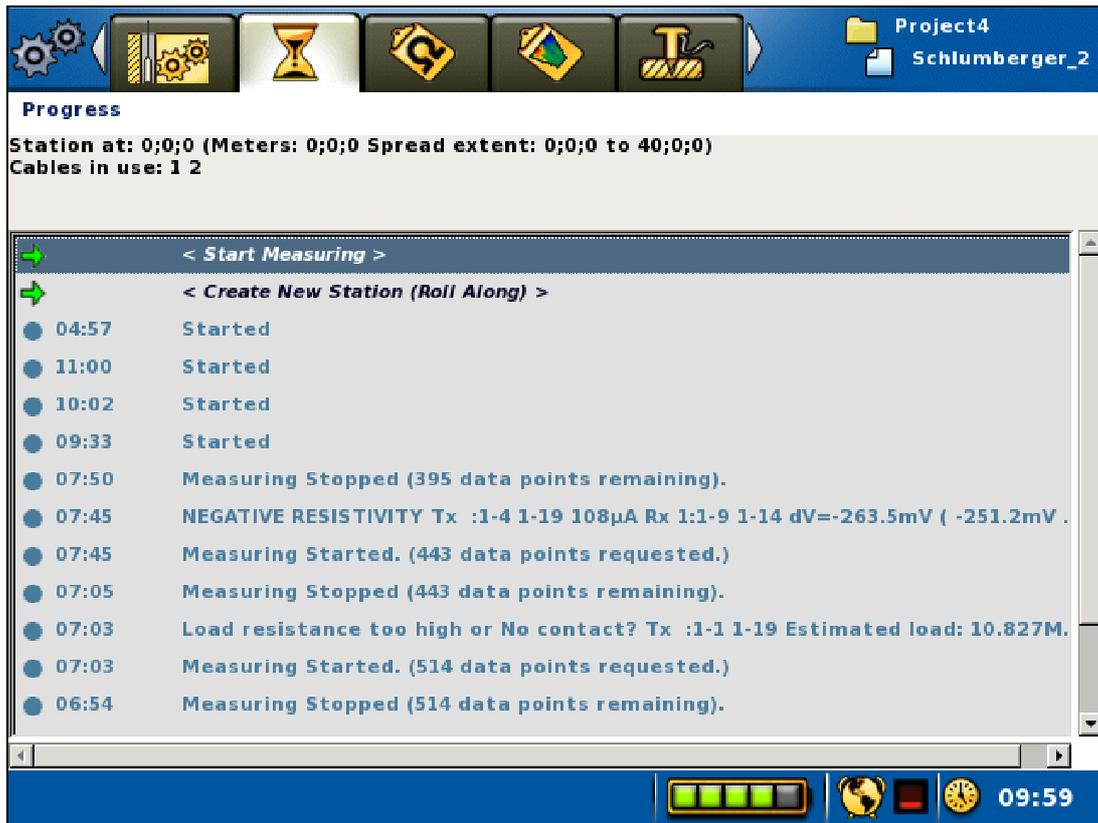
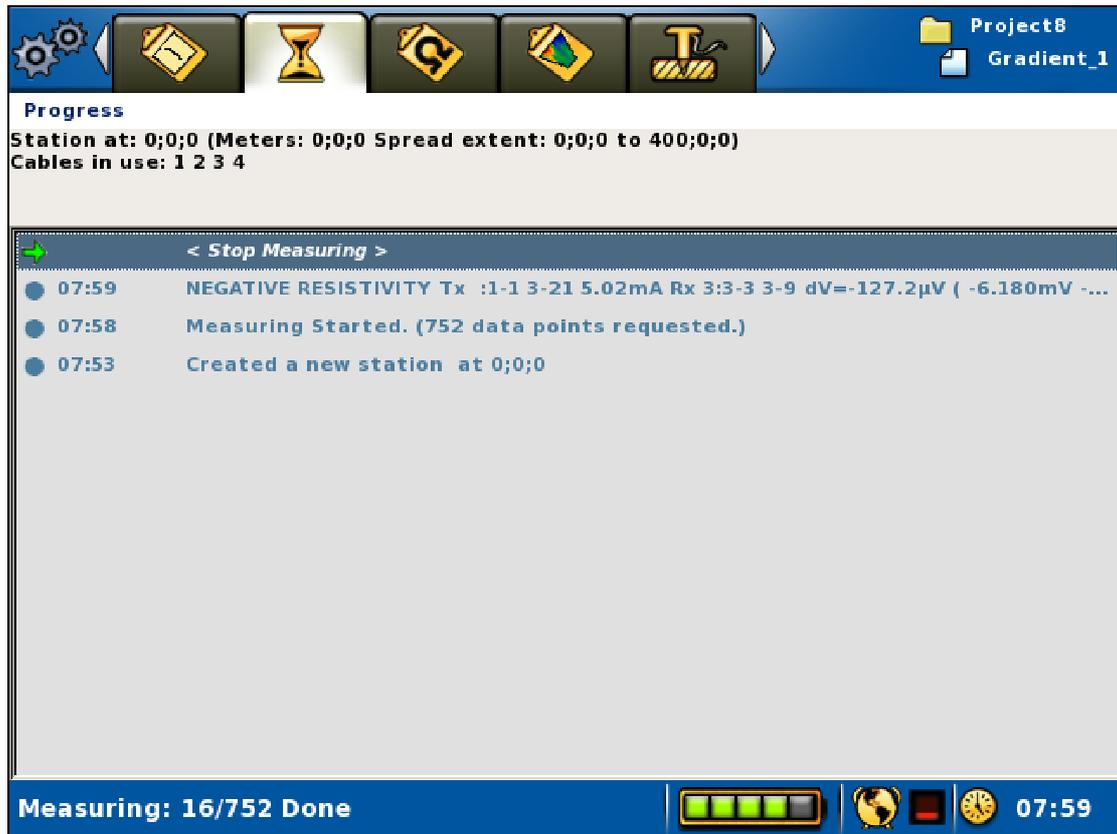

Figure 54 Start measuring command on measuring progress view
Figure 57 Progress view
- Move the highlight to the <Start Measuring> row (Figure 54)
The measuring progress is shown on the “*Measure/Progress*” View (Figure 57).
The top of the “*Measure/Progress*” View shows the coordinate location of the cable spread, and which of the cables that still remain to be used by the protocol on the present measurement station (Figure 54 and Figure 57). If all measurements for the cable have been completed it is removed from the list, so that only cables with remaining measurements on the current station are listed on that line.
- Move the highlight to the <Stop Measuring> row (Figure 57)